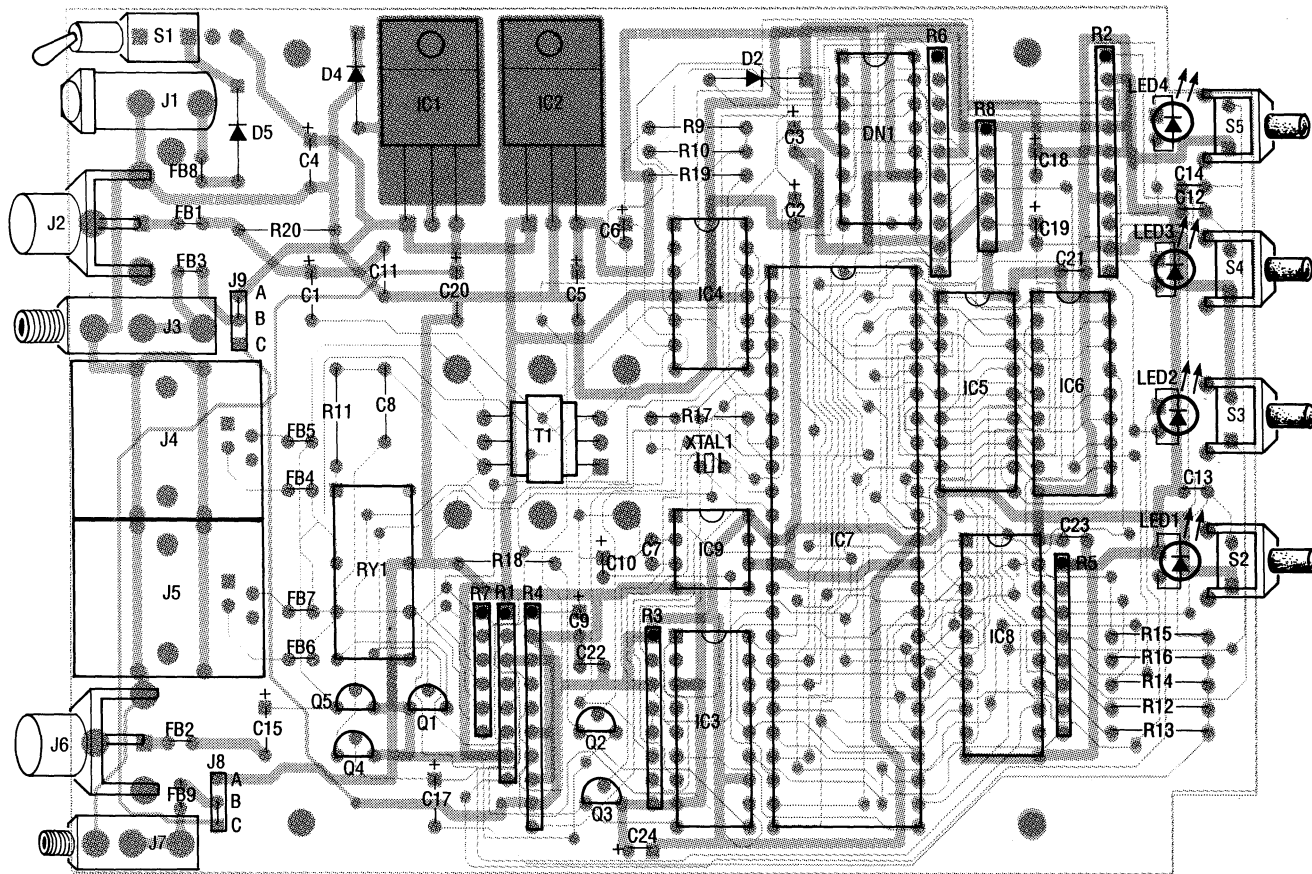

FIG. 6—PARTS-PLACEMENT DIAGRAM for the videophone base unit. Observe proper component orientation, and use sockets for all of the IC's.
**FIG. 6—USE THIS TEST SETUP TO accurately calibrate your meter. A known current is passed through a coil whose field intensity is known. A sine-wave generator provides the 60 Hz frequency, and an audio amplifier is coupled to the coil by an 8-ohm resistor. Measure the voltage across the resistor, and use the calculations shown.**
If you desire to calibrate your meter more exactly, you will need to generate a known magnetic field intensity. One way to do that is to pass a known current through a coil configuration whose field pattern characteristics are known. Figure 6 shows such a calibration setup. A good controllable signal source is a sine-wave generator and an audio amplifier, whose output is coupled to a coil through an 8-ohm resistor. Measuring the voltage across the resistor gives the current. Then, calculate the magnetic field according to Fig. 6. (Note that while all references to field strength here are made in teslas, gauss are also commonly used. The conversion is easy: 1 tesla = 10,000 gauss.)
Figure 6 shows the parts-placement diagram for the videophone base unit. There's nothing critical concerning the construction of the unit, just as long as you are careful to observe proper compo-